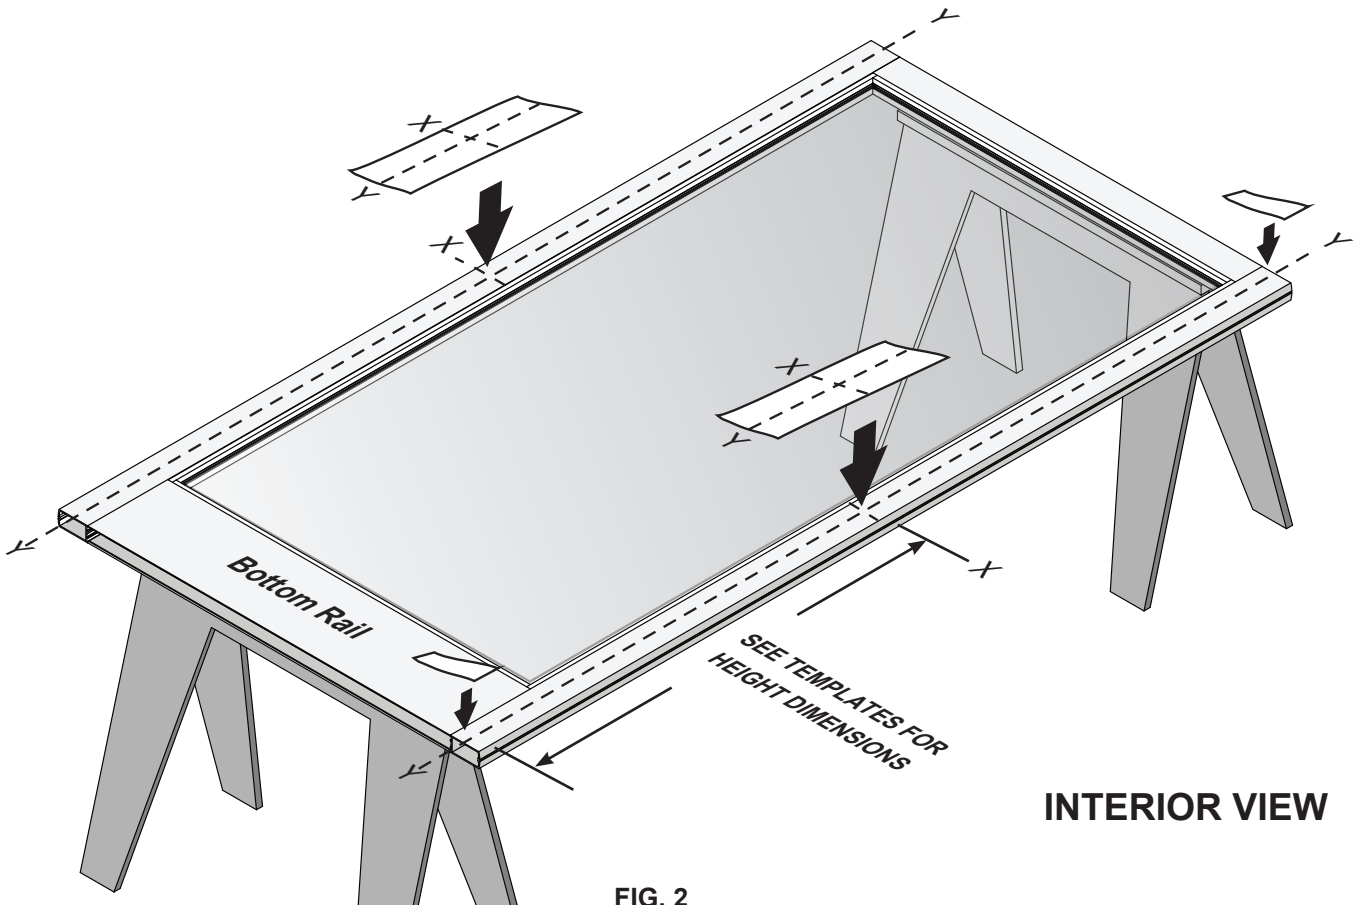

FIG. 2
3. Mark the corresponding layouts on to the stile using the vertical centerlines at the specified height. **(Fig. 2)**